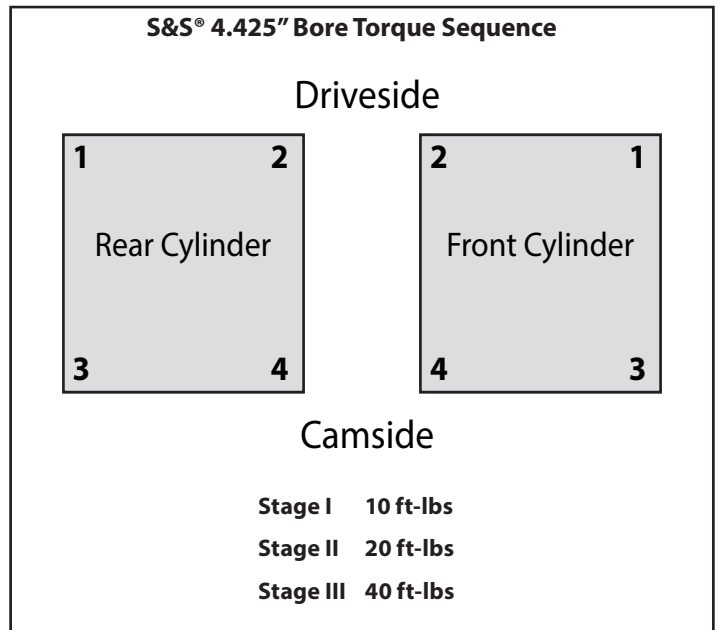

Figure 1
7. Torque bolts to 40 ft-lbs. in same pattern used to install heads during engine assembly. See **Figure 1**.